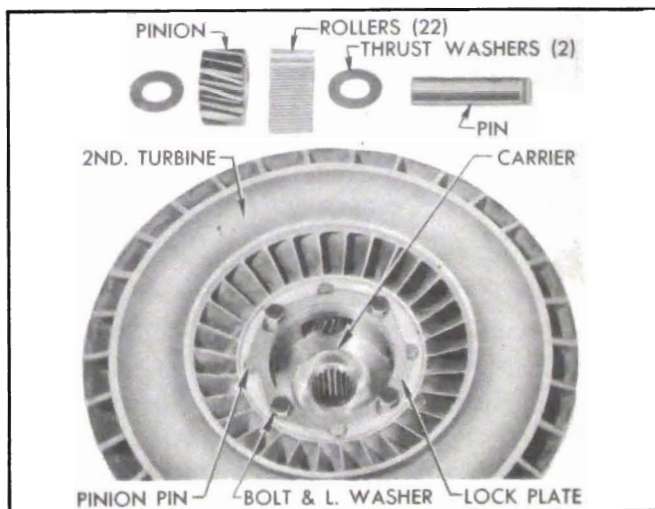

Figure 5-41—Second Turbine Parts
3. Remove four bolts with lockwashers and the pinion pin lock plate from second turbine. See figure 5-41. It is not necessary to remove the turbine from carrier at this time.
4. Remove pins, then remove the four planet pinions and thrust washers from turbine carrier. Remove bearing rollers (22) from each pinion. See figure 5-41.
7. Install pinion pin lock plate so that it enters the notches of all pins, then install the four turbine-to-carrier bolts with lockwashers. See figure 5-41.